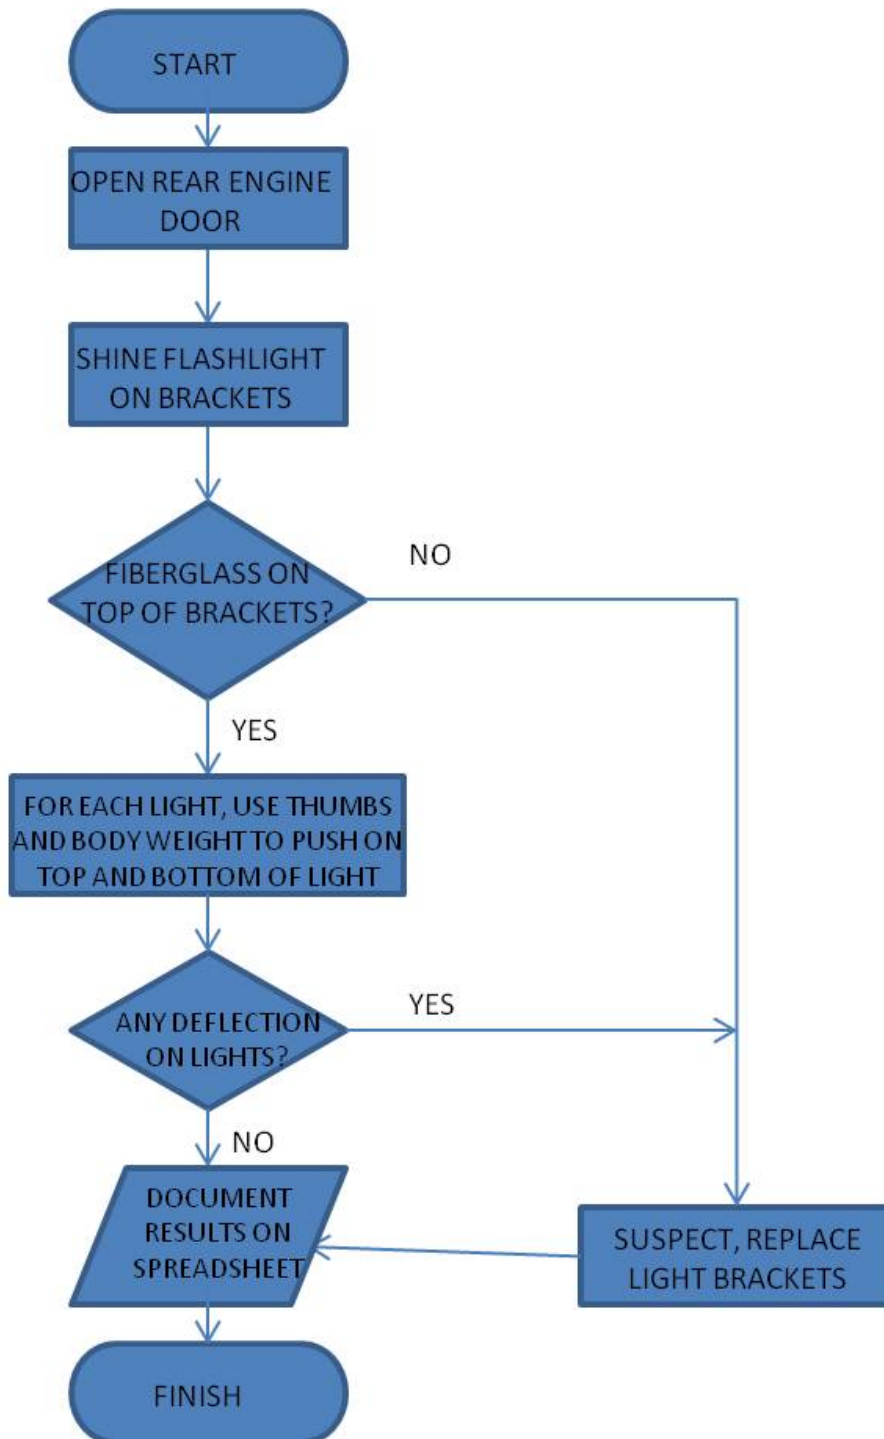

Figure 2: Bracket Inspection Flow Chart
4. With a flashlight, inspect both the roadside and curbside taillight mount bracket locations. Refer to Figure 2 for taillight bracket inspection flow chart.